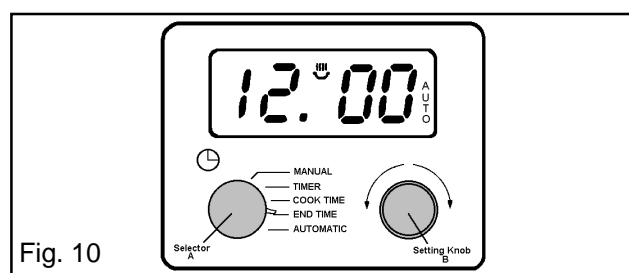

Fig. 10
iii) Turn the selector (A) to 'End Time'. The display will show 0.00 and the cookpot (☼) symbol will be lit. Turn setting knob (B) until the time is shown when you want the food to stop cooking e.g. 12.00 noon. Fig. 10.